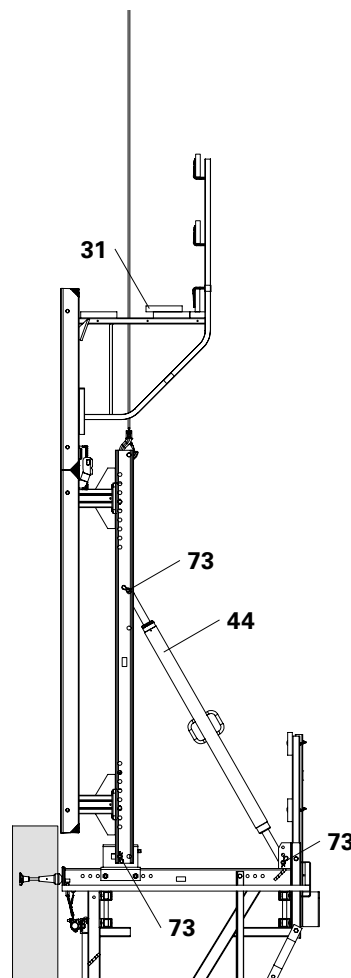
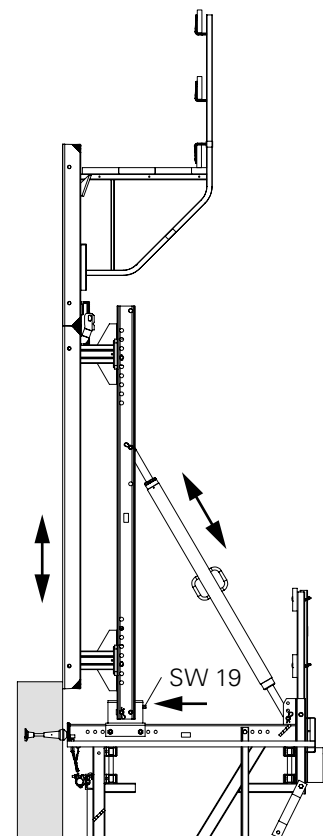

Fig. B2.17c
Fig. B2.17d
5. Fix Adjustable Brace CB 164-224 (44) to the bracket using Bolts $\varnothing$ 25 x1 80 (73) and Cotter Pins 4/1. Spindle out to approx. length and attach to Strongback CB (70). (Fig. B2.17c)
6. Detach lifting gear. Close decking (31) on the concreting platform.
8. Align formwork, see B3. (Fig. B2.17d)